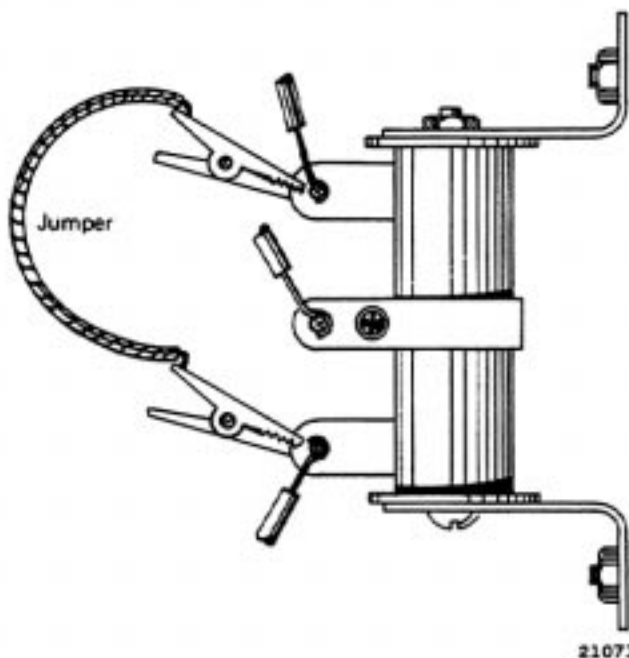

Fig. 4 - Shorting Reference Voltage Resistor
5. On regulators equipped with the 72 volt reference feature, attach a jumper wire, Fig. 4, across end terminals of reference voltage setting resistor R1.